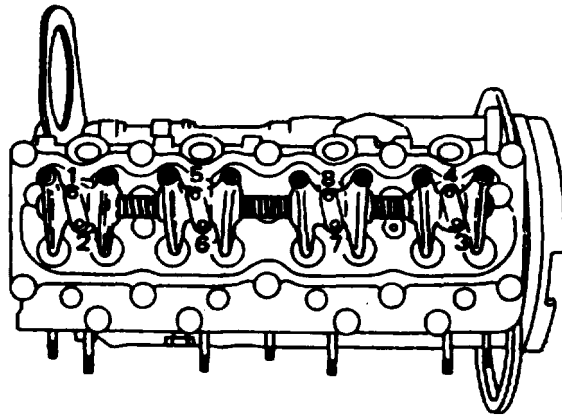

FIGURE 3-53. Rocker Arm Retaining Plate Bolt Loosening Sequence
- e. Loosen eight bolts (7) a little at a time in the sequence shown in FIGURE 3-53.